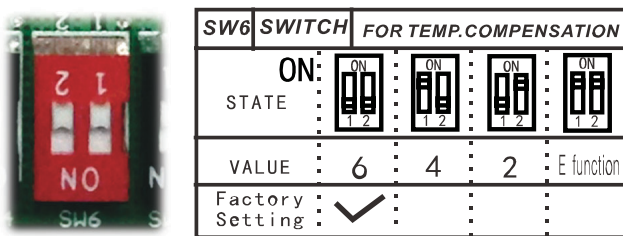

Fig. 14 —Dip Switch SW6 is for selection of temperature compensation
E. Dip switch SW6 is for selection of temperature compensation in heating mode. See Fig. 14.